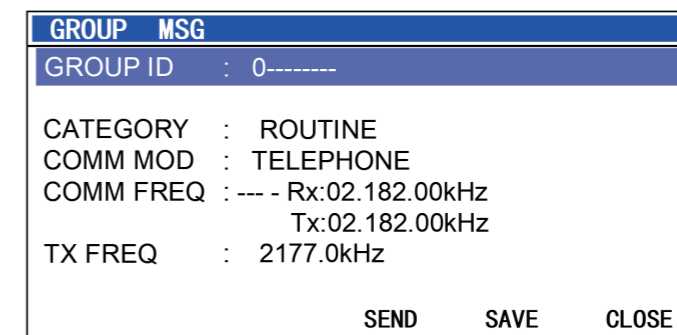

Figure 5.3.1
- b: Use the channel knob to select <GROUP MSG>(Group Call), then press [CH/ENT] to open the editing interface, as shown in Figure 5.3.1.